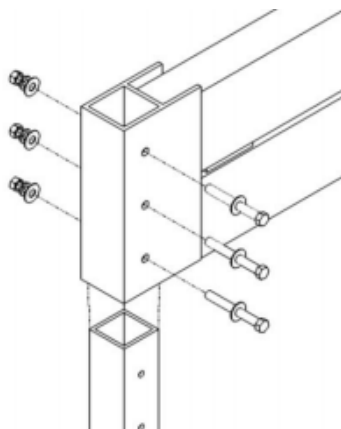

Figure 1
Note: Ensure Crossbeam and Leg Pocket is oriented in the upward position as shown in Figure 1.
1. Slide Crossbeam Leg Pocket over Square Tube Leg as shown in Figure 1 and adjust to desired height.